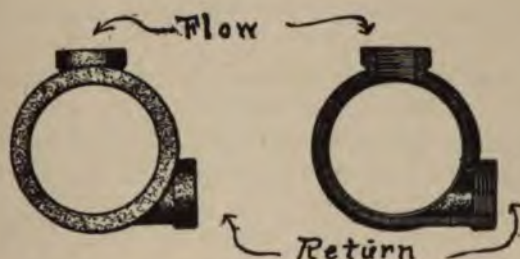
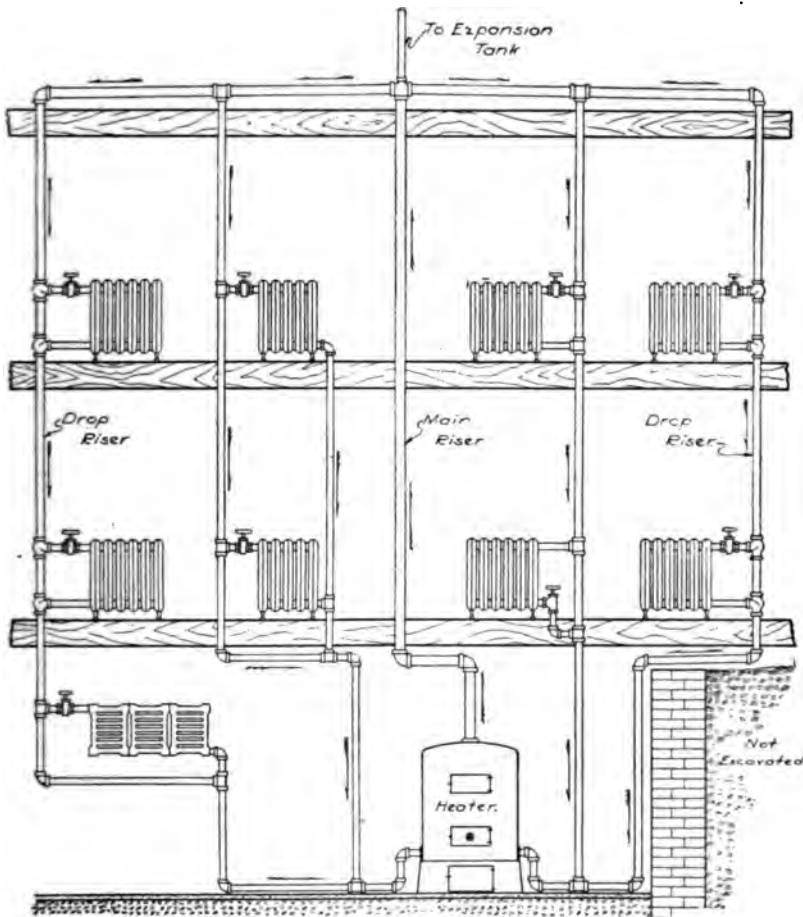

Fig. 55.—The Phelps Single Main Tee.
Fig. 56.—The Overhead System of Hot Water Heating.
A. There are several special fittings manufactured which assist in dividing the flow and return circulation; among these are the Eureka Fitting shown by Fig. 55, and the Phelps Single Main Tee shown by Fig. 56.
A. The overhead system of hot water heating as its name implies is a method of supplying hot water to radiators located on various floors from a system of piping which is run overhead at the top of the building. The mains may be suspended from the ceiling of the top floor or be run through an attic or loft if such is available. Fig. 56.